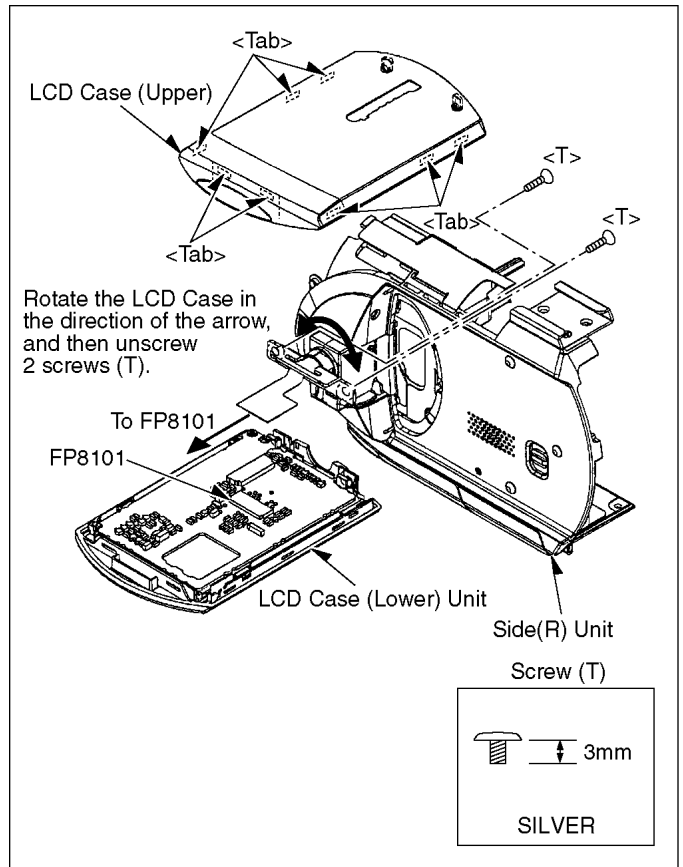

Fig. D15
| | | Fig. D15 | Rotate the LCD Case in the direction of the arrow, and then Unscrew 2 Screws (T). 8-Tabs LCD Case (Upper) 1-Connector FP8101 LCD Case (Lower) Unit Side (R) Unit |